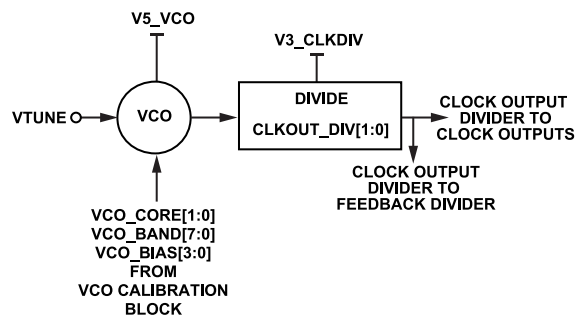

Figure 69. VCO and Clock Output Divider
A 2-bit divider, CLKOUT\_DIV, in Figure 69 is used to reduce the frequency seen at the output buffer and feedback divider. The clock output divide value (O) may be set to 1, 2, 4, or 8. Use the CLKOUT\_DIV bit to directly program the divide ratio. CLKOUT\_DIV is located inside the PLL loop. Therefore, any change to CLKOUT\_DIV requires a change to the N\_INT bit fields, Bits[11:0] to maintain the same fPFD and results in the PLL losing lock for a few loop time constants. Refer to Table 18 for more information. See the Theory of Operation section for the relationship between the fREF, fPFD, fVCO, and fOUT frequencies.